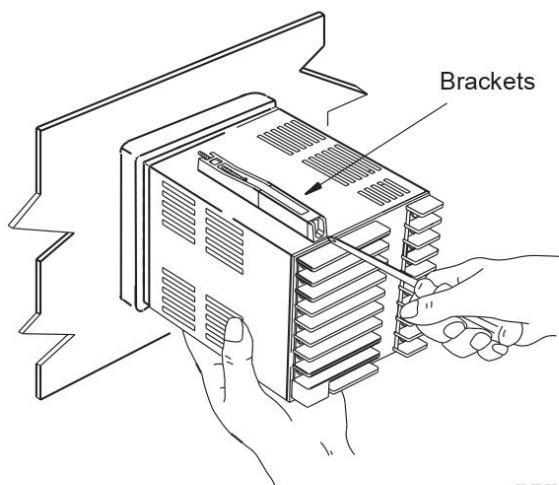

Figure 2.5 Mounting
- (1) The panel on which the instrument is mounted should be steel plate between 1 mm and 10 mm thick.
- (2) Insert the instrument from the front of the panel.
- (3) As shown in Fig. 2.5, mount this instrument on the panel using the supplied brackets. The brackets mount on the top and bottom of the case at the specified positions (see Fig. 1.1 External Dimensions of Instrument).
- (4) Tighten the mounting bracket screws until they touch the panel, then tighten half a turn.